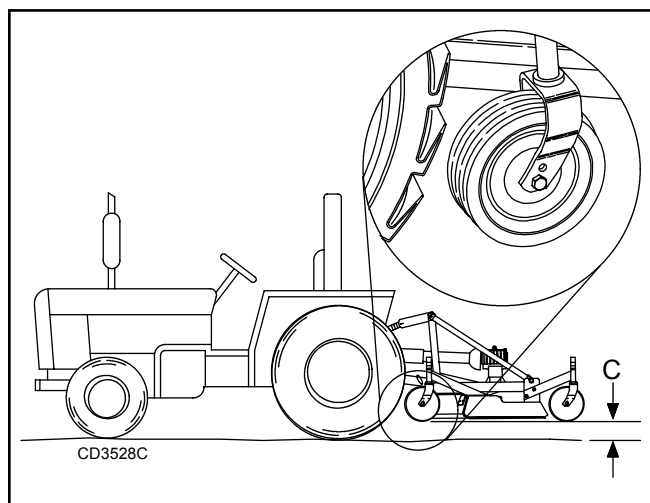

Figure 10. Front Caster Wheel Interference Check
For transport, adjust tractor top link so mower is level between caster wheel and ground (dimension C). Figure 10.
1. Raise the mower slowly with the tractor hydraulics to 16" at dimension C, Figure 10, or maximum height of tractor lift, whichever is less.